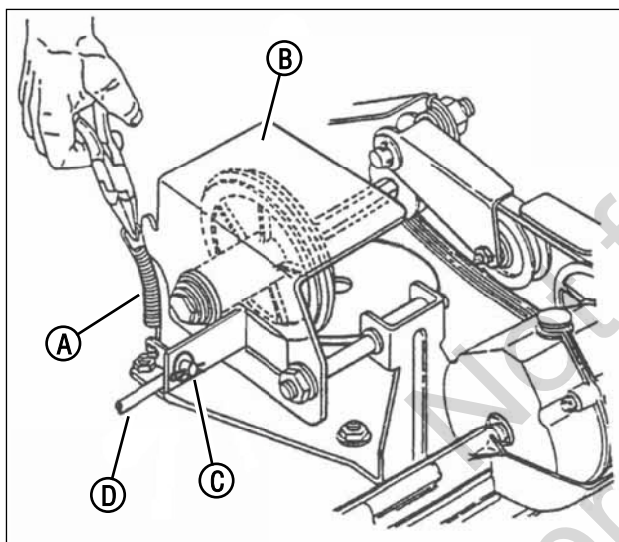

Figure 26: Adjusting the driven disc
2. Remove the driven disc spring (A, Figure 26) from the driven disc assembly (B). Also remove the pin and washer (C) from the transfer rod (D), and remove the end of the transfer rod from the hole in the driven disc assembly.
1. Remove the pin and washer (C, Figure 26) from the transfer rod (D), and remove the end of the transfer rod from the hole in the driven disc assembly.